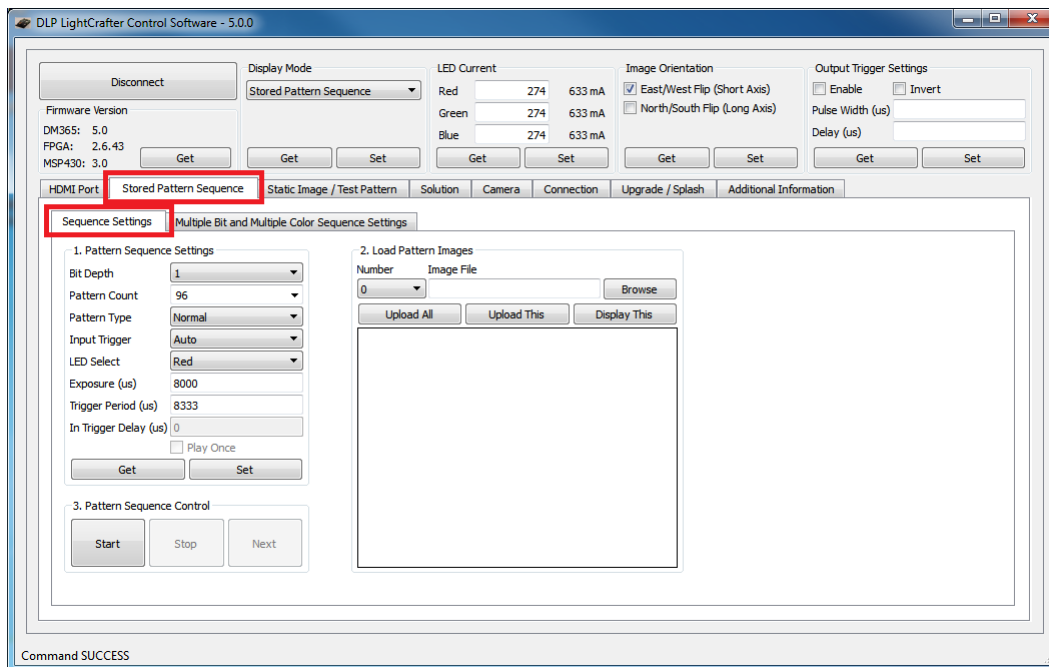

Figure 2-36. DLP LightCrafter GUI Sequence Settings Tab in Stored Pattern Sequence Tab
- Select the "Stored Pattern Sequence", then the "Sequence Settings" tab as shown in Figure 2-36.